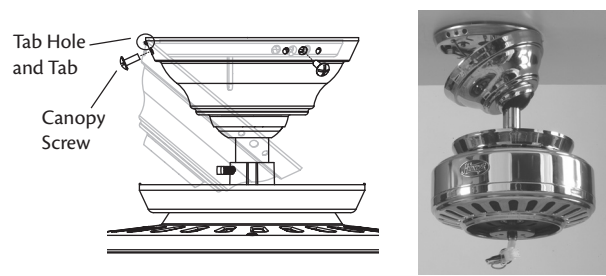

Figure 15 - Installing the canopy
- Hook the tab hole over the tab on the ceiling plate as shown in Figure 15.
one at a time. When all three screws are assembled, securely tighten all three canopy screws. Refer to Figure 15.